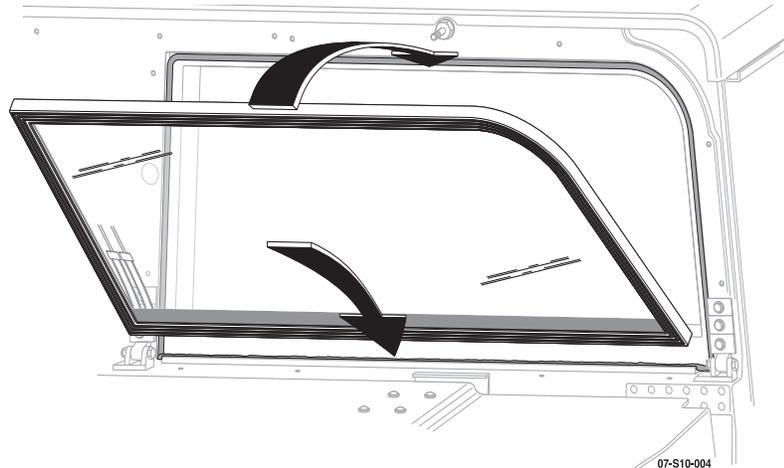

Figure 6: Butyl Tape And Glazing Compound Installation
4. Apply a 3/8 inch bead of bedding and glazing compound centered (front to rear) in the lower windshield receiving trough running across from one end of the butyl tape to the other. The bead of compound must connect with each end of the butyl tape to obtain a weather tight seal in the lower corners of the frame (See Figure 6).